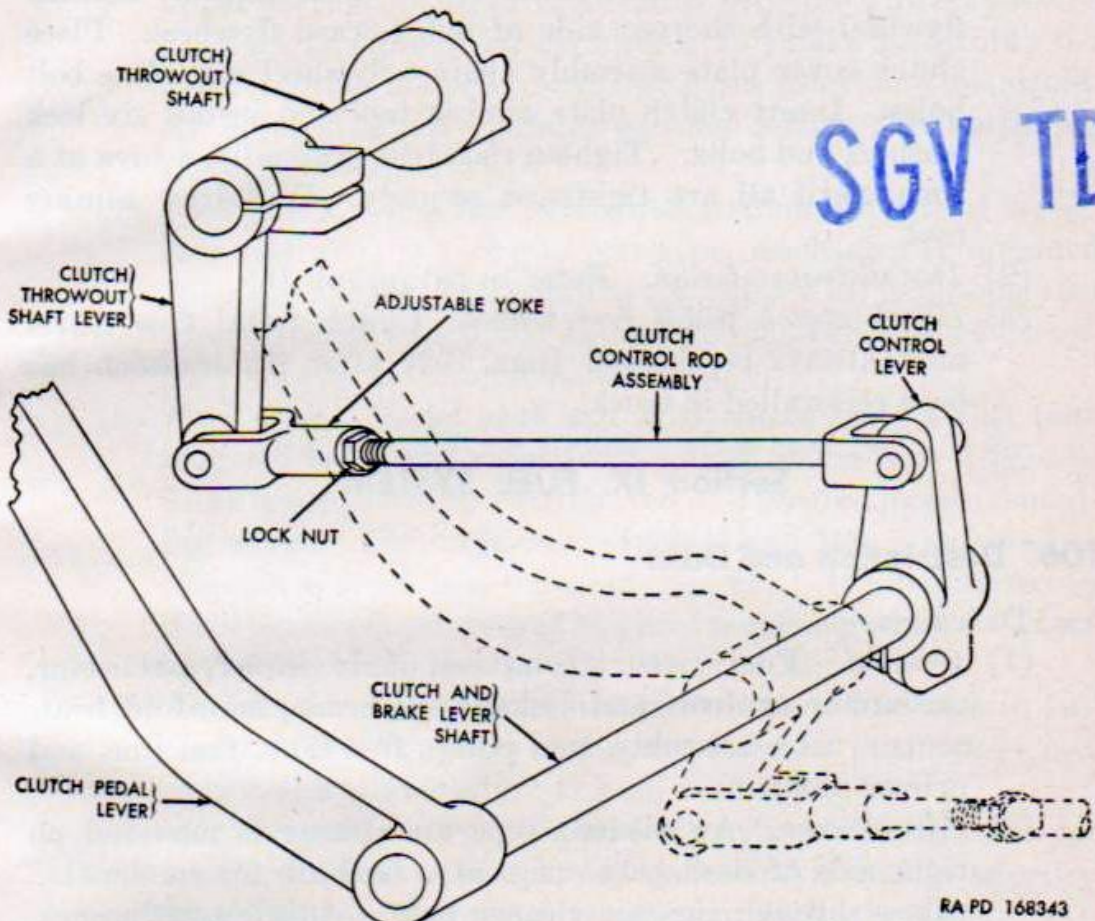

Figure 53. Clutch linkage.
- (2) *Disconnect clutch linkage* (fig. 53). Disconnect clutch linkage at clutch throw-out shaft by pulling quick-disconnect pin part way out of yoke.
- (2) *Connect transmission-to-transfer propeller shaft.* Insert four bolts through holes in transmission companion flange and propeller-shaft companion flange and tighten.
- (3) *Connect clutch linkage (fig. 53).* Connect clutch linkage at clutch throw-out shaft by alining holes and pushing quick-
b. **ADJUSTMENT (fig. 53).** If clutch-pedal free travel is less than $1\frac{1}{4}$ inch, loosen lock nut at adjustable yoke on clutch control rod assembly, pull out quick detachable pin, and turn yoke to give proper clutch-pedal free travel. After adjustment is made, push in quick detachable pin and tighten lock nut firmly.
(fig. 53)
a. **GENERAL.** Clutch pedal is connected to clutch throw-out shaft in clutch housing through the linkage (fig. 53).
b. **REMOVAL (fig. 53).** Disconnect clutch-pedal return spring. Loosen lock nut at adjustable yoke on clutch control rod assembly. Disconnect control rod assembly at clutch throw-out shaft by pulling pin part way out of yoke. Disconnect control rod assembly from clutch control lever by removing safety nut and bolt and remove assembly. Remove clutch pedal from pedal lever. Loosen clamp bolt in clutch-pedal lever and pull lever off clutch-and-brake-lever shaft. Loosen clamp bolt in clutch control lever and remove lever.
c. **INSTALLATION** (fig. 53). Place key in clutch-and-brake-lever shaft and push clutch-pedal lever on shaft. Tighten clamp bolt. Raise end of lever through toeboard and install clutch pedal. Place key in inner end of shaft, install clutch control lever and tighten clamp bolt. Position clutch control rod assembly on control lever and secure with bolt and safety nut. Connect other end at clutch throw-out shaft by alining holes and pushing quick-disconnect pin in place. Connect clutch-pedal return spring. Adjust clutch-pedal free travel (par. 103).